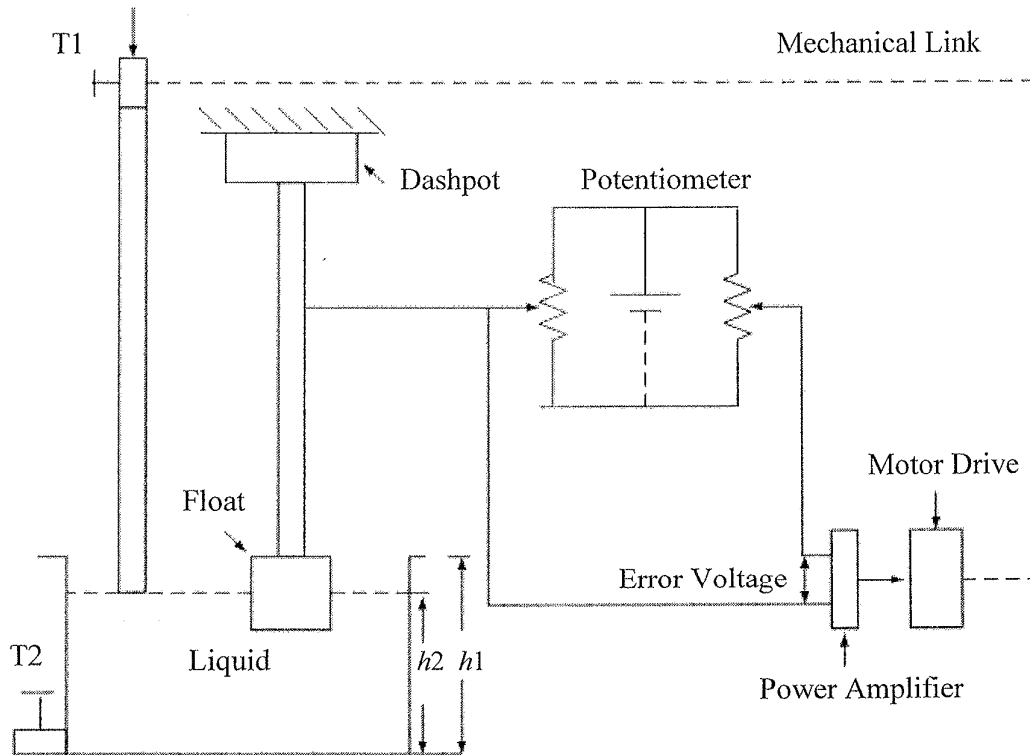

Figure 1(a)
- (a) Figure 1(a) shows a closed loop control system which is used to maintain the liquid level of a tank. Here, our objective is to keep the liquid level at the height of h_1 . The existing liquid level is h_2 and T1, T2 are the inlet valve and outlet valve respectively.